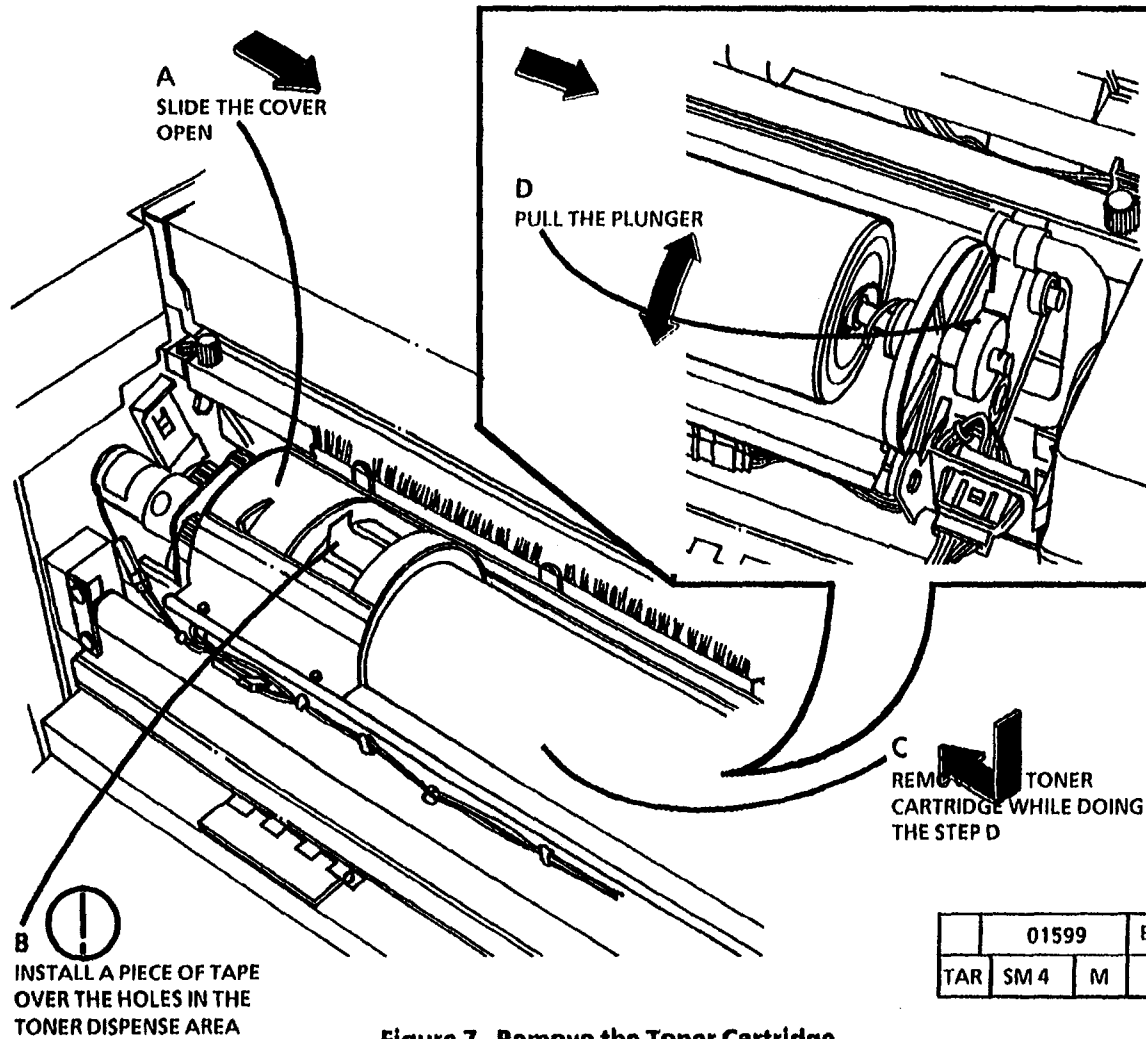

Figure 7. Remove the Toner Cartridge
14. (Figure 7): Remove the Toner Cartridge.